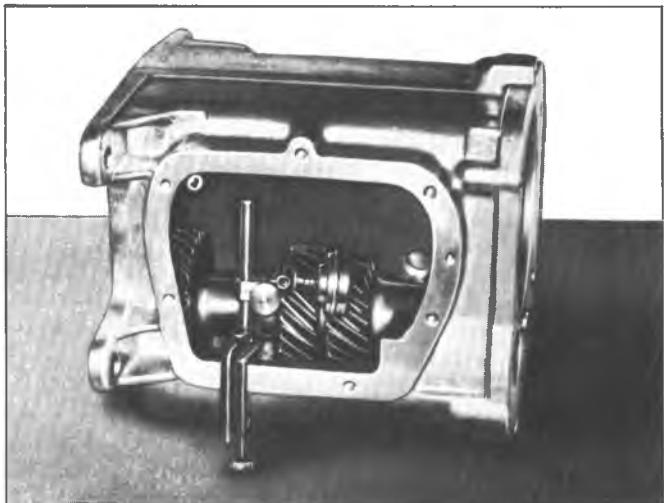

Fig. 17B--Checking Countergear End Play
6. Attach a dial indicator (fig. 17B) and check end plate of the countergear. If end play is greater than .025" new thrust washers must be installed.